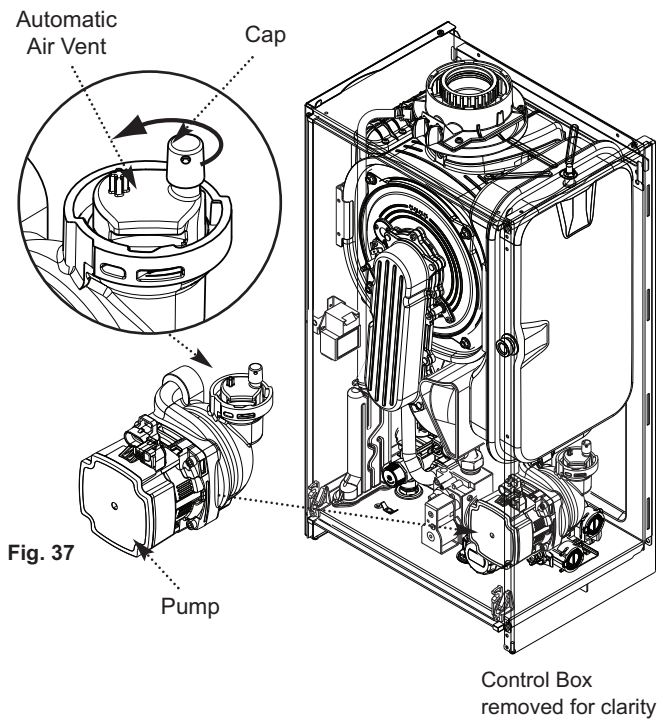

Fig. 37
3. Ensure that the filling loop is connected and open, then open the heating flow and return valves on the boiler. Ensure that the cap on the automatic air vent on the pump body is opened (Fig. 37).